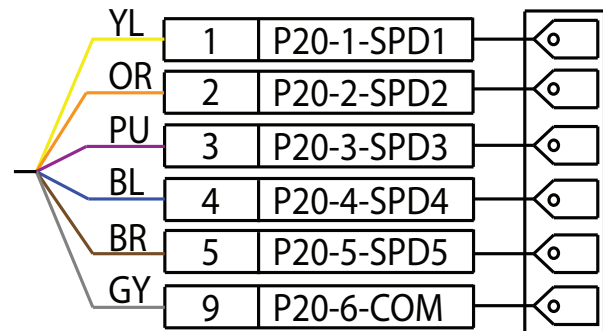

Fig. 50 — 5 Speed Settings Constant Torque ECM Pin Diagram
3. Change the torque tap wire to on the molex plug to one of the three or five speed settings. See Fig. 50 and 51.